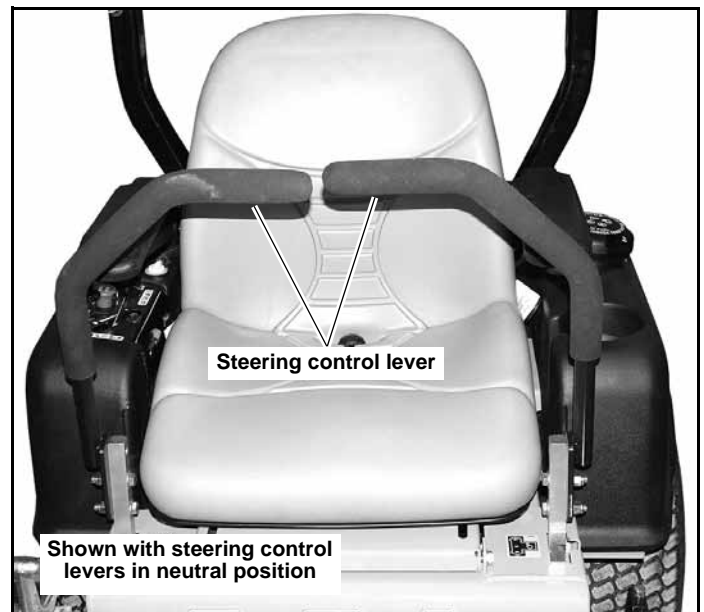
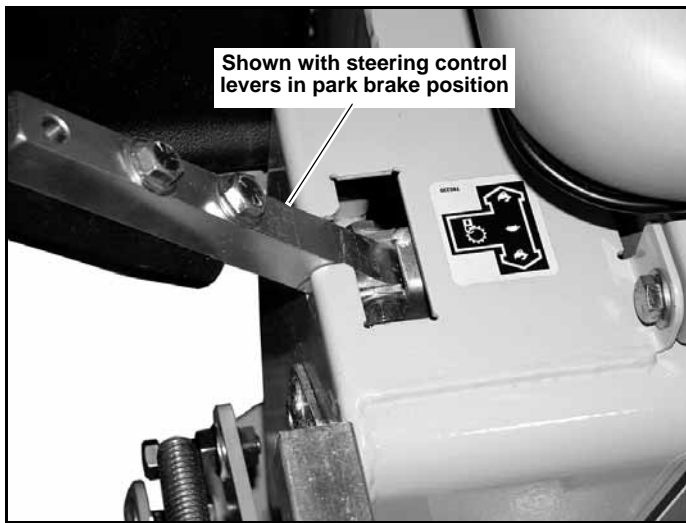

Figure 3-2
Figure 3-3
A. Steering control levers (Figure 3-2 & Figure 3-3) — these levers control the mower's speed, direction, stopping, and park brake. These levers are used to steer, accelerate, decelerate and change direction. When the steering control levers are in the park brake position the mower will not move when the engine is on and drive pumps are operating.